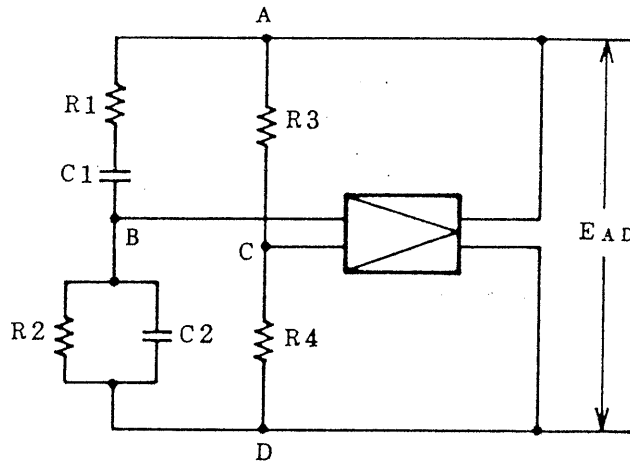

Figure 1
This instrument also employs a Wien-bridge oscillator circuit as shown in Figure 1.
Referring to Figure 1, E_{BC} becomes the same phase with E_{AD} when there exists the following condition:
It is hardly possible to satisfy always the state of equation (4) with the circuit of Figure 1. If this state exists from the beginning, the circuit cannot start oscillating. The condition for oscillation is not related to the amplitude as can be seen in equation (1) or (3).
With an acutal oscillator circuit, the oscillation builds up under the condition of equation (3) until the amplitude expressed with equation (4) is obtained. For this operation, resistor R3 or R4 of Figure 1 is required to vary automatically in response to the amplitude. This requirement can be met in various ways. The most popular method is to use a thermistor for resistor R3.